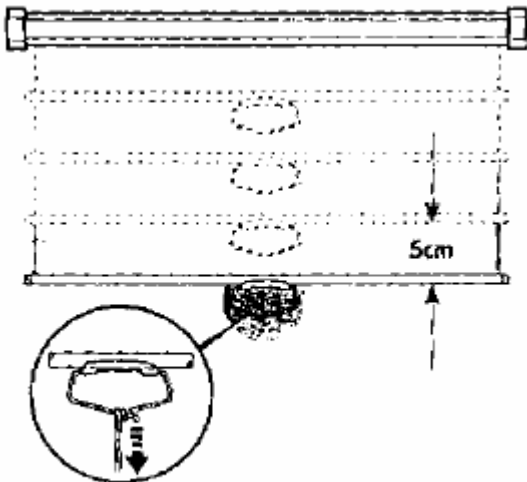

Fig. 6
2. If you want the screen to retract back, simply pull the screen down more than 5cm (2") and retract the screen back by guiding the retracting material in a swift but gentle motion. (**Fig. 6**) (It is ideal to release at a 90-degree angle and do not let go until the screen is entirely inside the case)